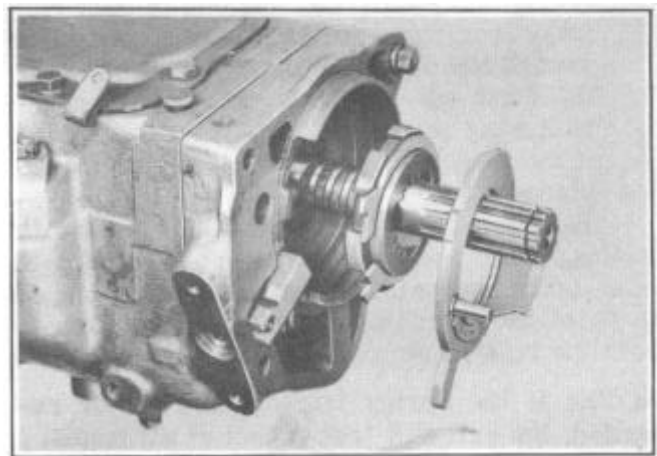

FIGURE 19
9. The retainer plate, the sun gear, control plate and blocker assembly, and the pawl can then be removed, Figure 19.
1. Install the adaptor plate and use one of the overdrive housing attaching screws to hold the adaptor in position. Install the solenoid pawl, sun gear control plate and blocker assembly, Figure 19.